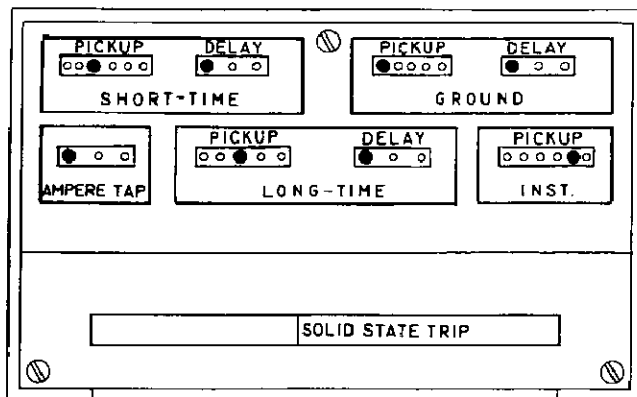

Fig. 19 — Solid State Overcurrent Trip Device
1. Turn adjusting screw (1) out as far as possible so that the circuit breaker will not trip when the magnetic latch trips.
2. Remove the terminal block cover on the solid state assembly by removing two lower screws (Fig. 19). Disconnect two wires at terminals 15 and 16.
SOLID STATE OVERCURRENT TRIP DEVICE SETTINGS (See Fig. 19)